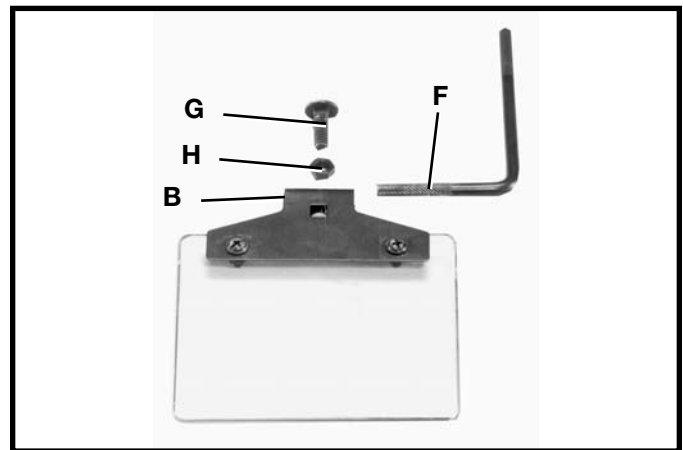

Fig. 4
2. Insert short end of eyeshield mounting rod (F) Fig. 4, into top of frame (B) and fasten in place with the 3/4" long carriage head bolt (G) and hex nut (H).